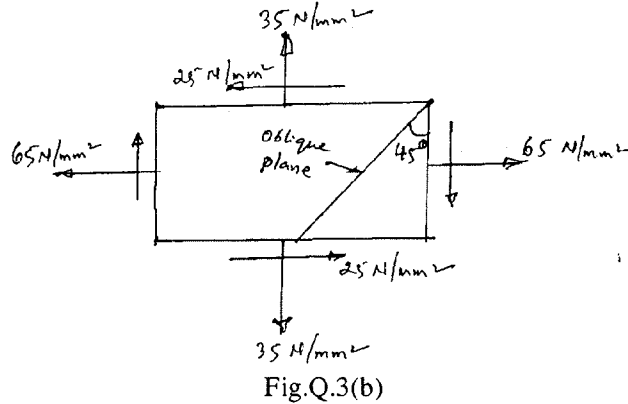

Fig.Q.3(b)
- b. A point in a strained material is subjected to stresses shown in Fig.Q.3(b). Using Mohr's circle, determine the normal and tangential stresses across the oblique plane. Check the answer analytically. (12 Marks)